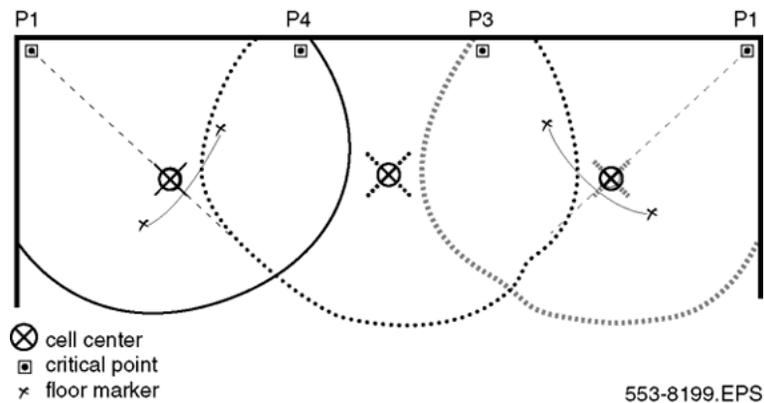

Figure 64: Multi cell distance using the single cell technique
16. Use the subsequent critical points to fill in the coverage area between the first two cells using the Single cell deployment on page 97. An example of this is shown in Figure 64: Multi cell distance using the single cell technique on page 102.